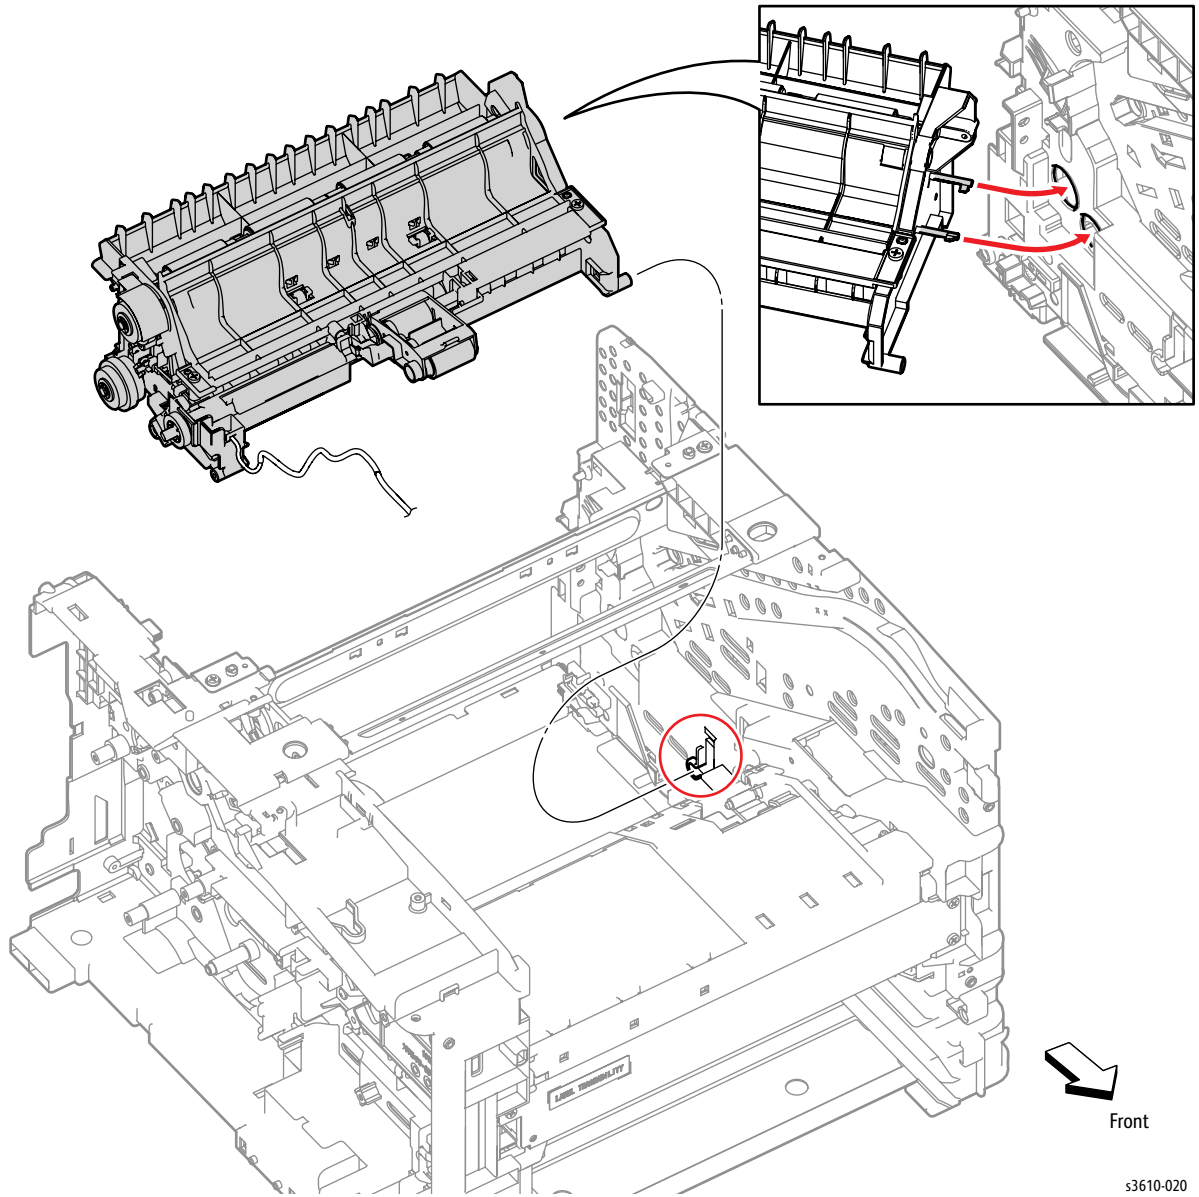

Figure 8
1. Check the position of the Registration Sensor Shutter when re-installing the Transport Assembly. (Figure 8)